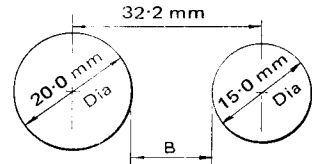

Fig. 1.28
- Find the dimension  $B$  shown in Fig. 1.28.